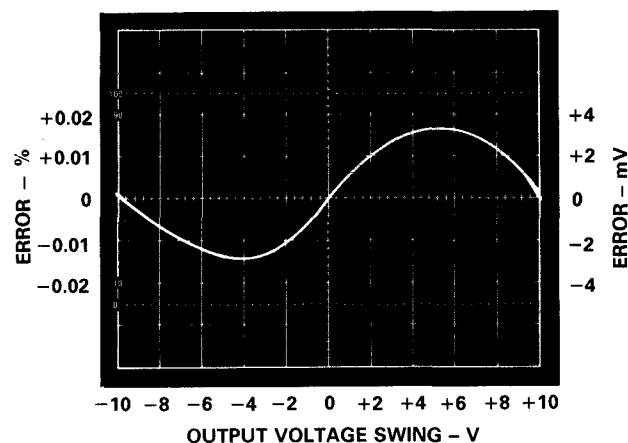

Figure 2. Gain Nonlinearity Error (% p-p Output Range and mV) vs. Output Voltage Swing (V), with a Gain of 1 V/V
**Gain Nonlinearity.** The maximum nonlinearity error of the AD203SN, at a gain of 1 V/V, is specified as  $\pm 0.025\%$  or  $\pm 5$  mV. The nonlinearity performance of the AD203SN is dependent on the output voltage swing and this dependency is illustrated in Figure 2. The horizontal axis represents the gain error, expressed either in percent of peak-to-peak output span (i.e., % of 20 V) on the left axis or in mV on the right axis. The vertical axis indicates the magnitude of the output voltage swing.